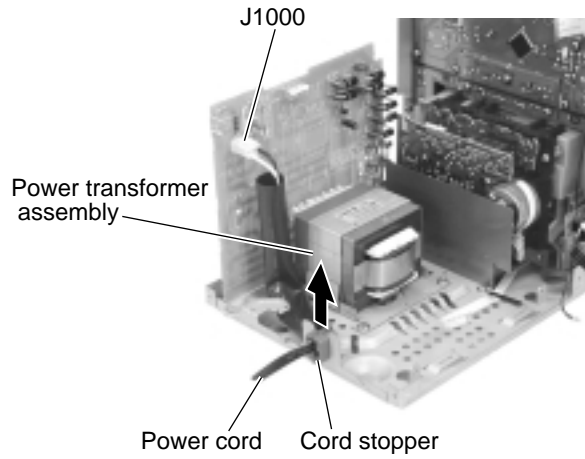

Fig.22
**■Removing the power transformer assembly (See Fig.22 and 23)**